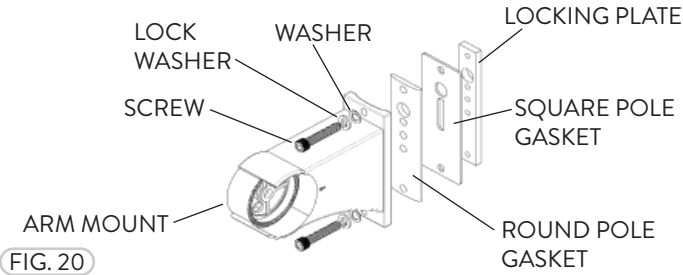

FIG. 20
- 1 The Arm Mount is only available for FFLA/2 70/90 fixtures (Fig. 20). The Arm Mount can be mounted on either a Square or Round pole.